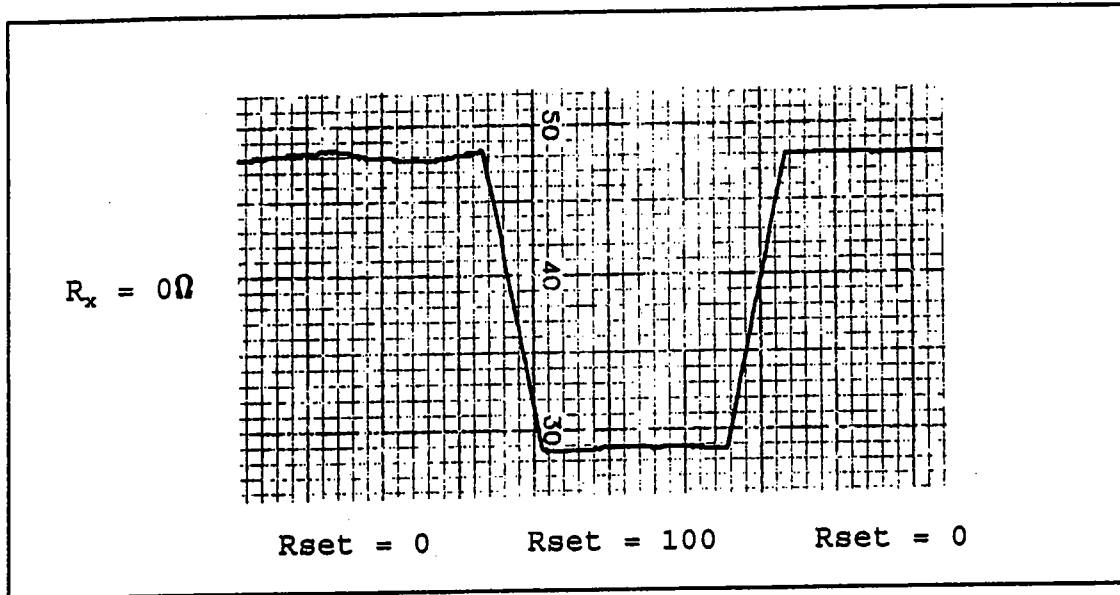
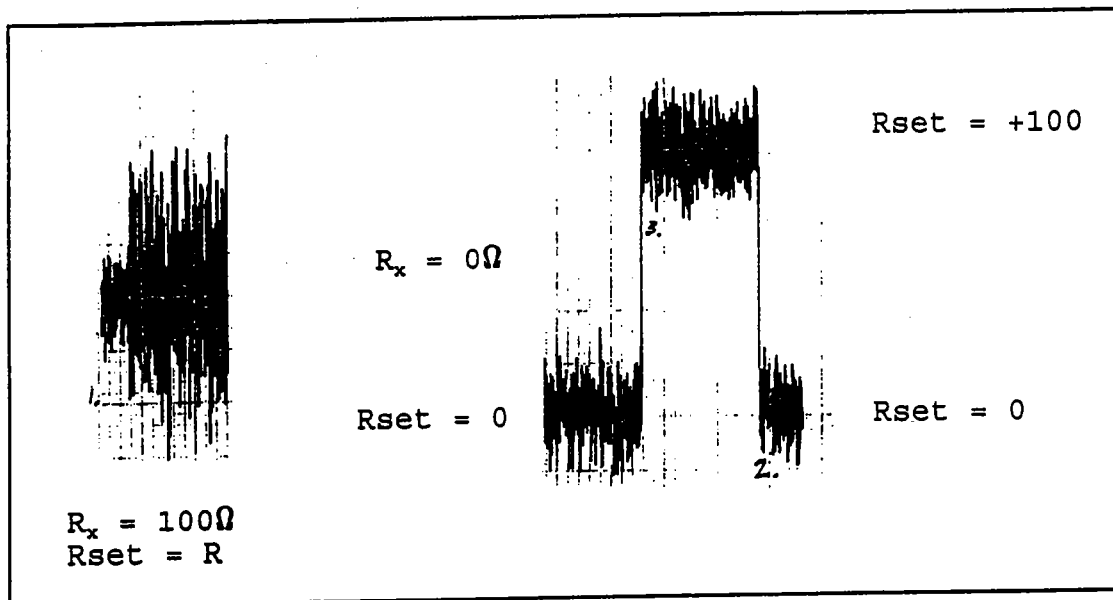
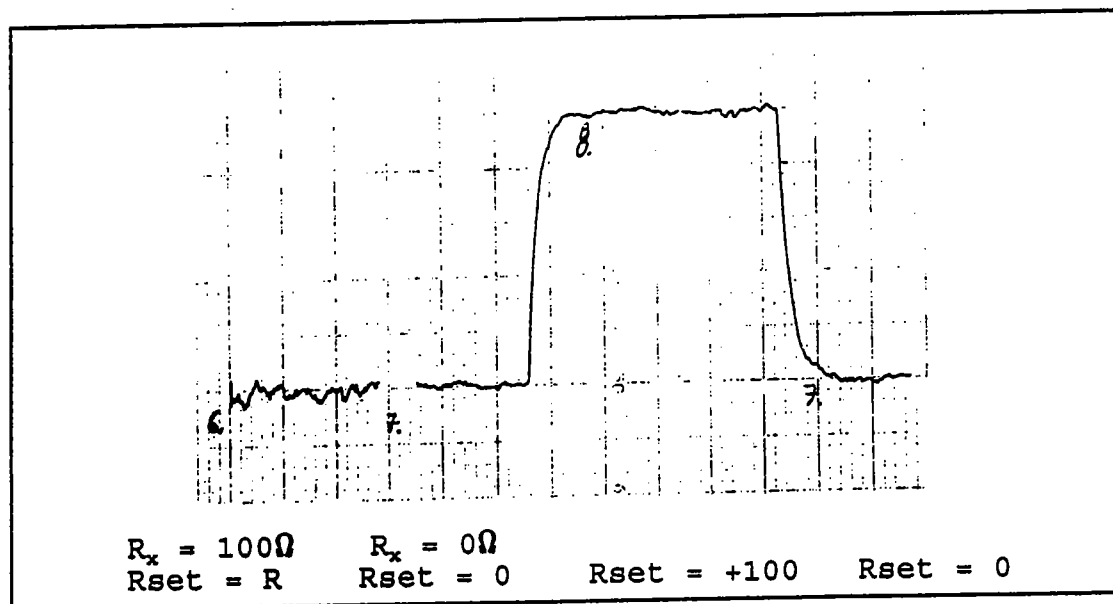

Figure 3.7 DAC ANALOG OUTPUT
Figure 3.8 ΔR ANALOG OUTPUT
Figure 3.9 ΔR ANALOG OUTPUT WITH 10SEC EXTERNAL FILTER
For high resolution strip chart recording methods, a longer digital filter time constant can be conveniently used. The recording, Figure 3.7, was made with a digital filter time constant of 5 minutes. Compare this with (A) the direct analog output with no external analog filter (Figure 3.8) and (B) direct analog output with recording made with a 10 second external analog filter (Figure 3.9).